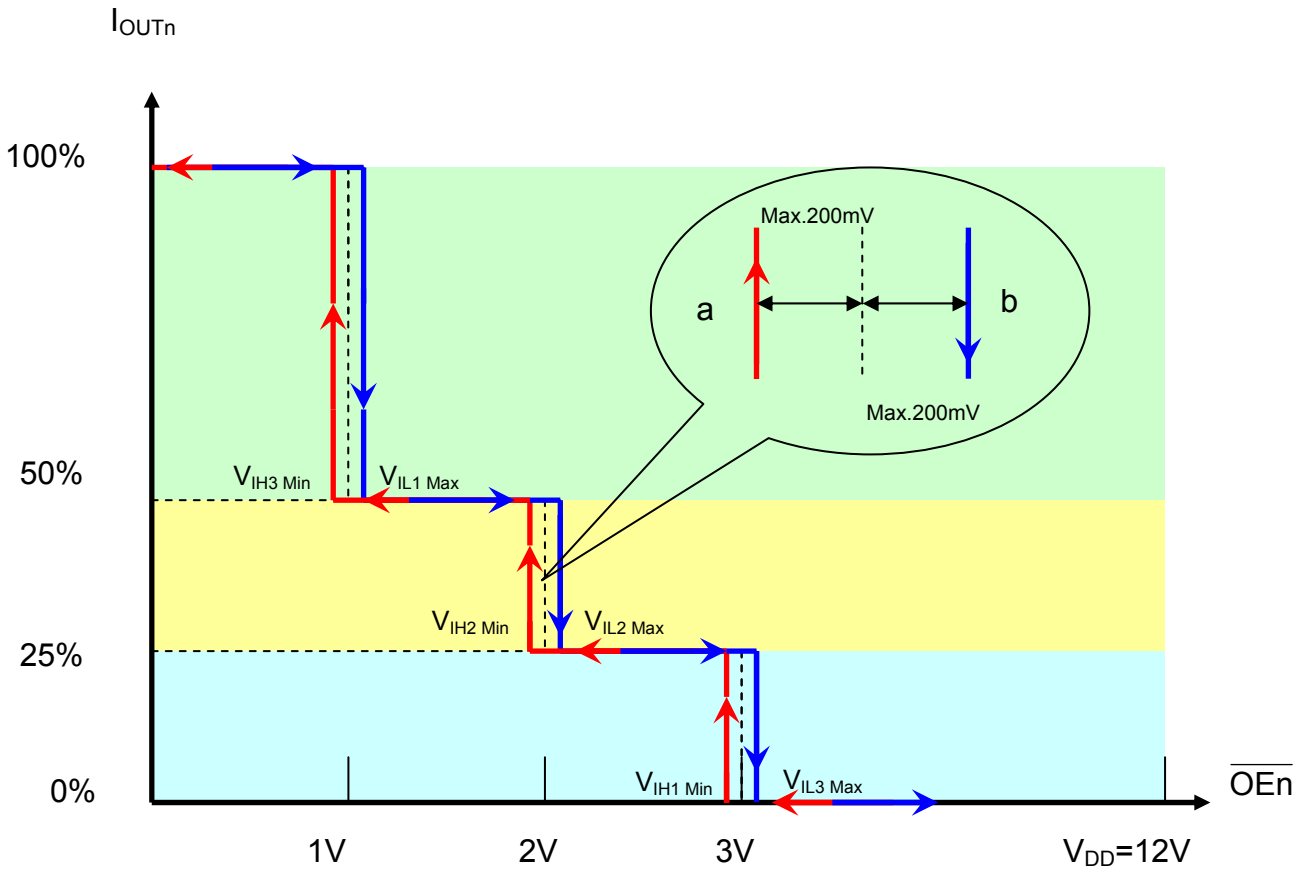

Figure 8
* Please refer to Figure 8 Adjustable Dimming Control on P.10 for details.
MBI1812 has analog dimming function for better application flexibility. MBI1812 provides two additional dimming level 25% and 50% of pre-set current which are controlled by \overline{OEn} , as shown in Figure 8 .
Besides, there is hysteresis design in each transition point. The maximum value 200mV is to avoid output current from flickering when \overline{OEn} swaying between the nominal value of pre-set levels (1V, 2V and 3V). For example, when users increase the output current by controlling \overline{OEn} from high to low, the transition points are ahead of nominal values and reach to 2.86V, 1.86V and 0.88V individually as shown in the red line “a” of Figure 8. On the other hand, when \overline{OEn} are from low to high, it means to dim the output current. Those transition points are behind nominal values and reach to 1.15V, 2.14V and 3.12V accordingly as shown in the blue line “b” of Figure 8.